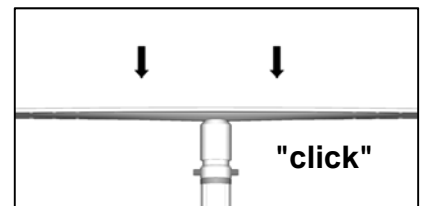

Figure 12
- Place the top plate into the top of the post; press firmly and evenly downward until the top plate "clicks" into place (see Figure 12).